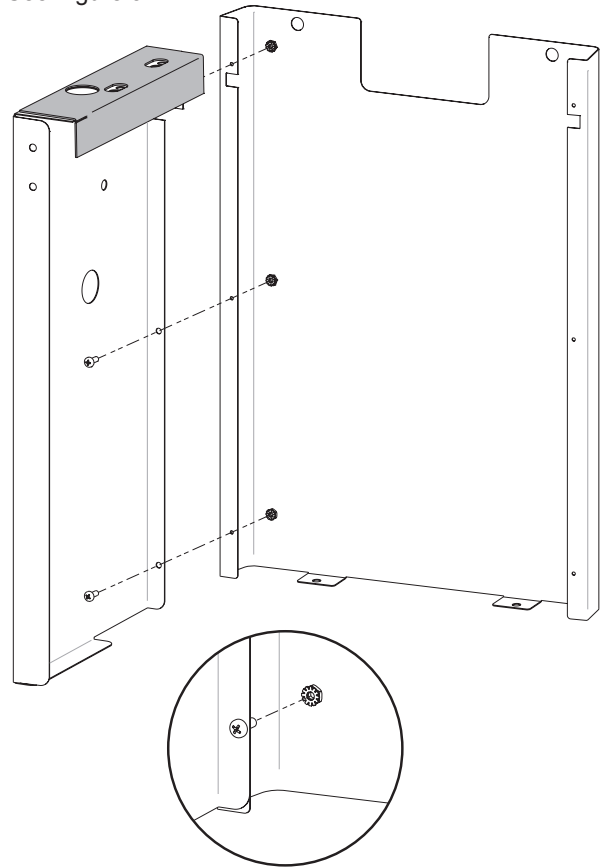

Figure 3
3. Align the holes on the front and side panel assemblies and secure with six #10-24 x 1/2" screws and nuts provided (3 on each side). Do not tighten these screws until all are installed. See Figure 3.